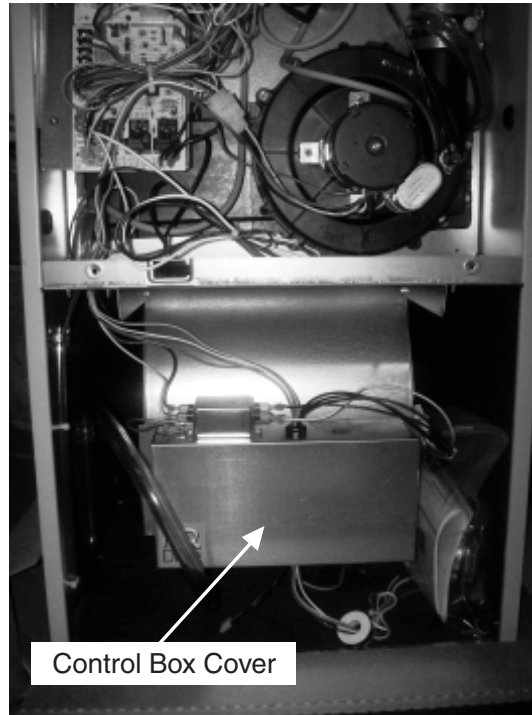

Figure 4. iQ Drive Gas Furnace with Front Cover Off, Showing control Box Cover.
Remove the furnace blower compartment front door. Locate the control box inside the blower compartment, remove its cover, and locate the EXV control circuit board on the left side within the control box. Refer to Figures 4 and 5.
- d. Route the cables to the EXV circuit board (board #1179-200, with the red DIP switch block). This may require cutting an access hole in the side or top of the control box (with the furnace or furnace blower kit). (See Figures 4 and 5)